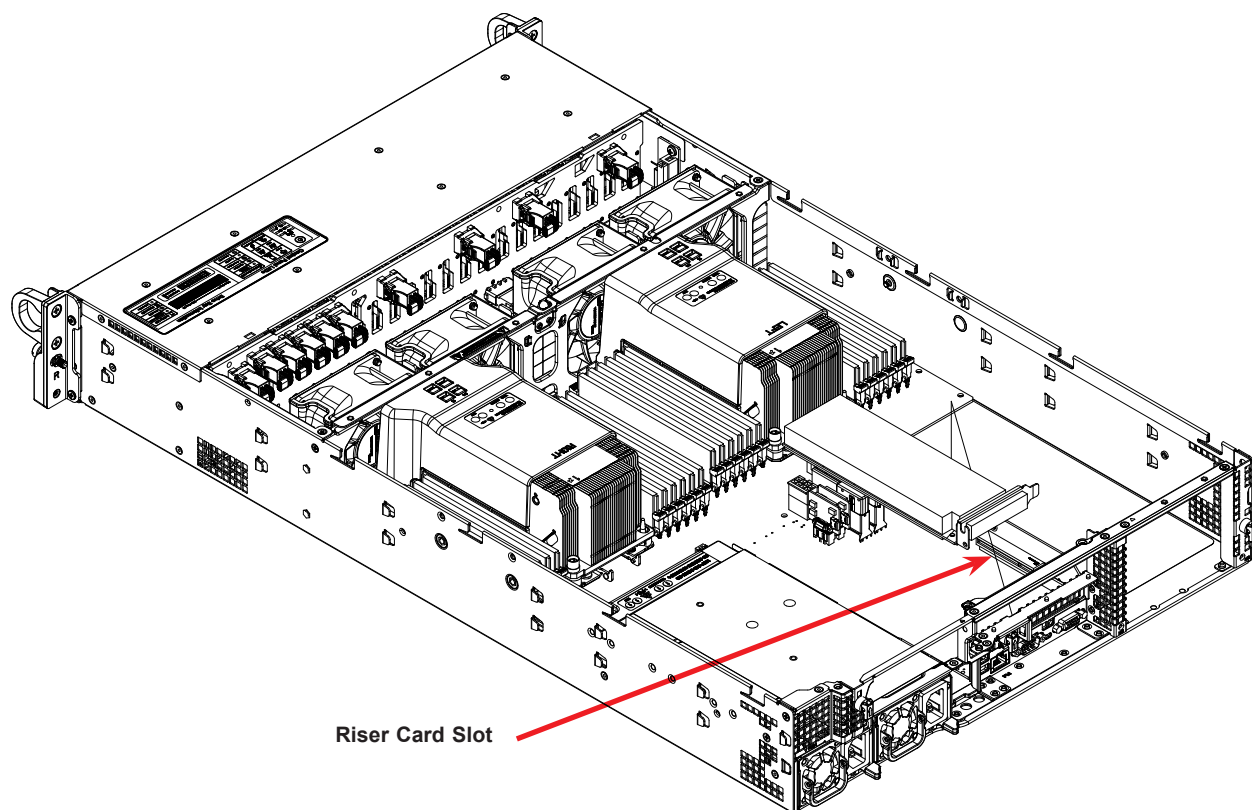

**Figure 3-17. Installing Expansion Cards**
1. Remove the left WIO riser card as described in Figure 3-17.